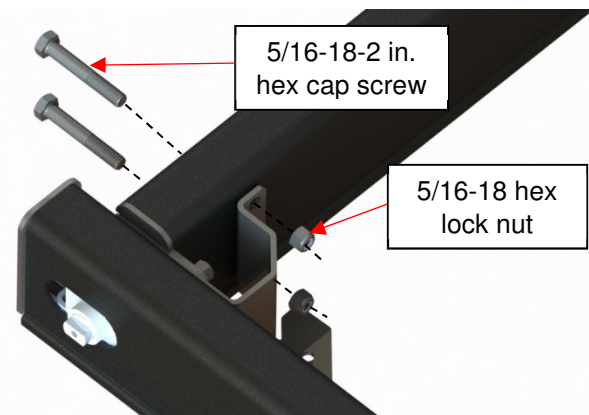

Figure 81
- 11) Slide the corner cover over the junction between the 2 U-frames and secure it in place with the painted #10-24-1/2 in. Phillips screw. (Figure 81)